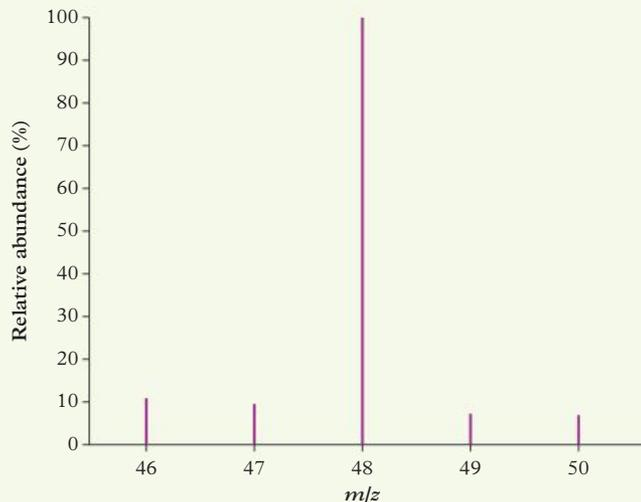

FIGURE 7 The mass spectrum of titanium
- 5 Calculate the relative atomic mass of titanium from the mass spectrum in Figure 7.